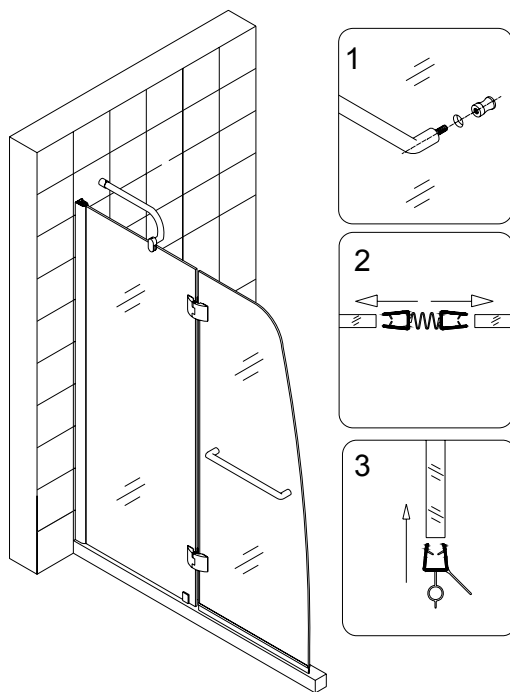

Fig 7
7. Install the **Handle (06)** and push on the **Connected anti-water strip (11)** to seal between the glass door and the stationary glass. Push the **Bottom anti-water strip (12)** to the glass door. See Fig.7 for details.